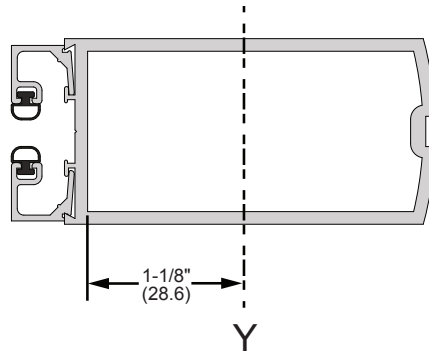

FIG. 1
2. Mark the stile centerlines 1-1/8" (28.6) from the inside edge of the stile. **(Fig. 1)**